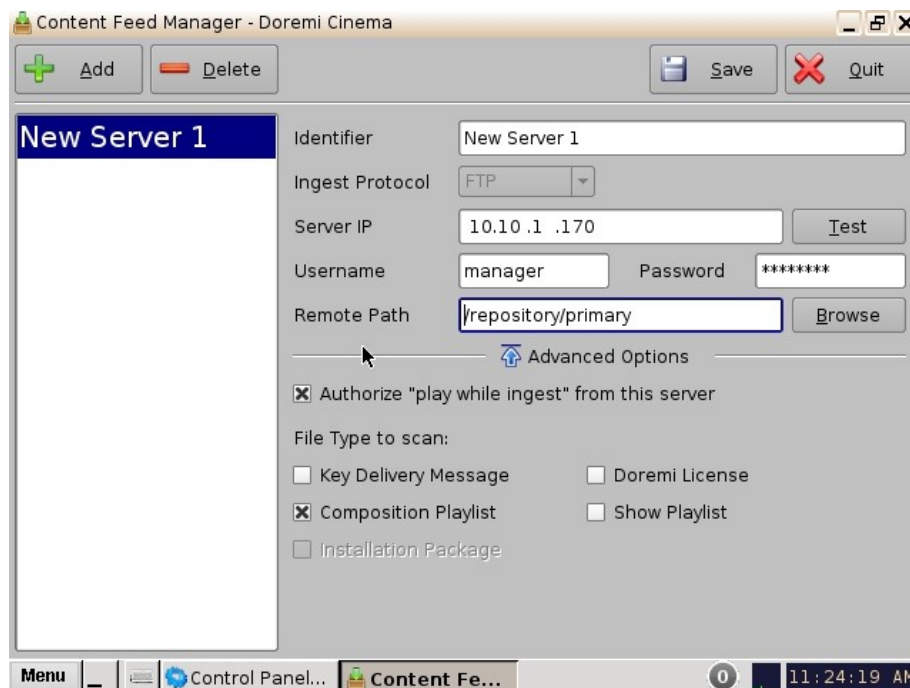

Figure 51: Server Added – Example
- Delete a server from the Content Feed Manager list by selecting it and clicking on the Delete button. This will also remove it from the Ingest Manager drop-down list of servers to ingest from. See Figure 51 for the Delete button.